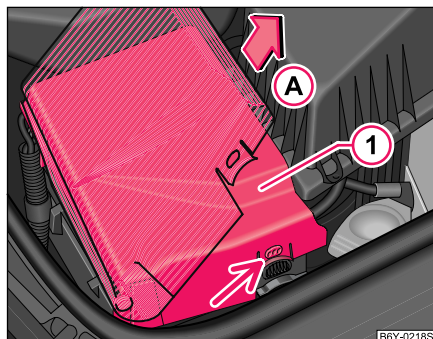

Fig. 131 Engine compartment: The battery
- Pull off the catch on the side of the battery cover **1**, place the battery cover at about 45° and remove the battery cover in direction **A** ⇒ fig. 131.